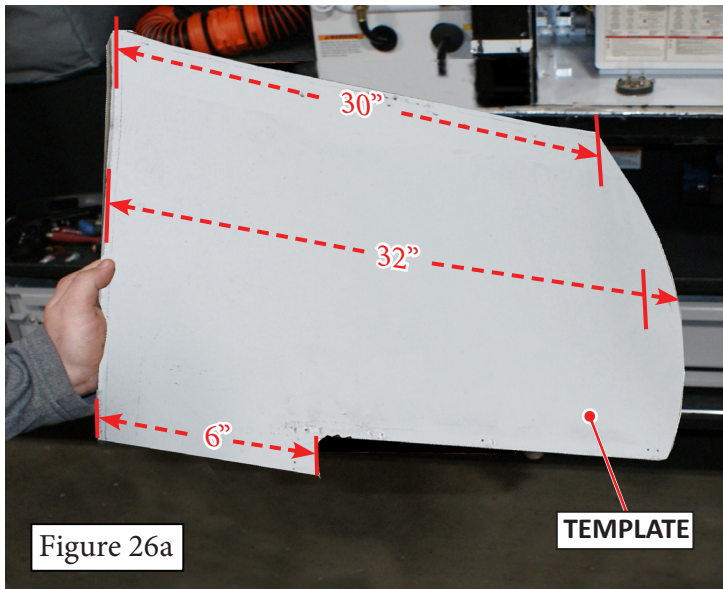

Figure 26a
- Use a template and grease pencil to mark the cut line for the fiberglass above the kitchen slide-out (Figure 26a and 26b).